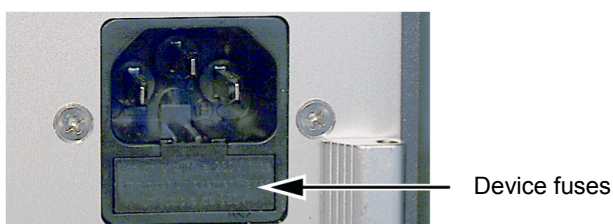

Fig. 18: Position of the device fuses
The mains connection is placed on the back panel of the supply and evaluation unit using a standard power cable and is outfitted with a power filter. This contains two fine-wire fuses 2A (T), which are externally accessible (see Fig. 18). The replacement of the fuses is described on page 82.